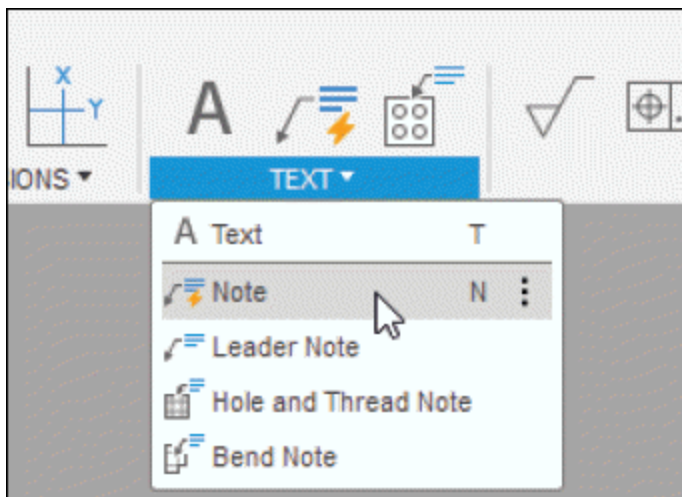
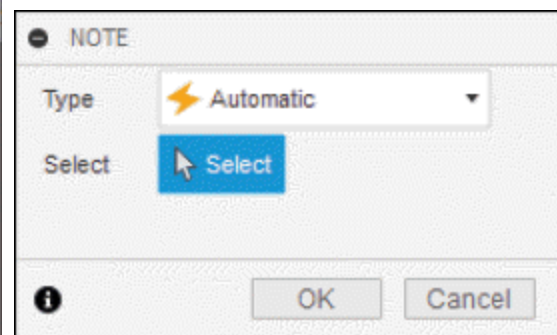

Figure-87. Note tool
Figure-88. NOTE dialog box
- Click on the **Note** tool from **TEXT** panel in the **Toolbar**; refer to Figure-87. The **NOTE** dialog box will be displayed; refer to Figure-88.
- Here, we selected **Leader Note** option in **Type** drop-down of dialog box or click on **Leader Note** tool from **TEXT** panel of **Toolbar**; refer to Figure-87. The tool will be activated.